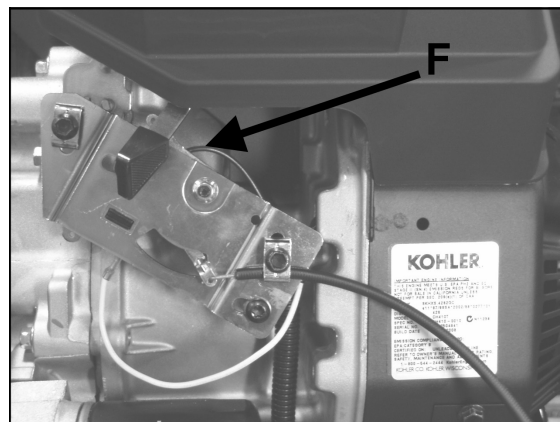

FIGURE 5
10. Connect wire from operator presence control to engine **F** at the top spade connector on engine control plate.(Figure 5)